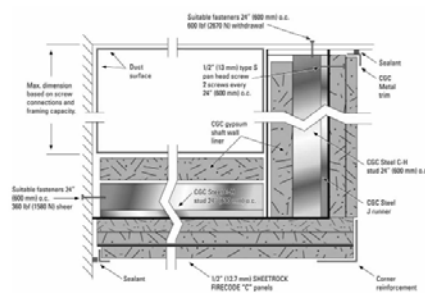

Figure 8
- Mineral insulated (MI) cable (Figure 8) manufactured in Canada since 1949 and ULC listed in 1980 as a 2-hour fire rated cable.